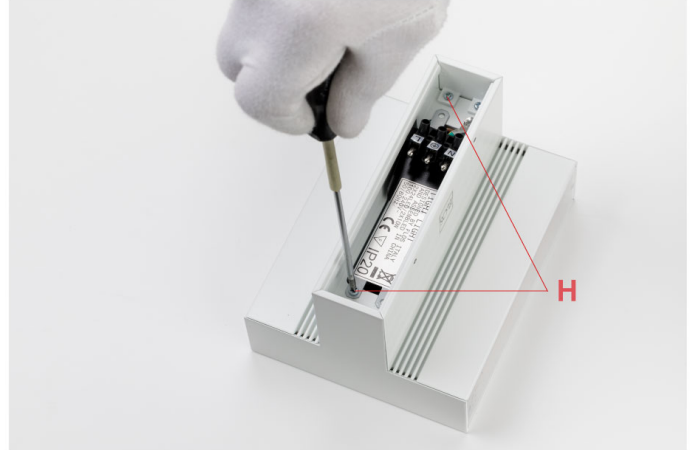
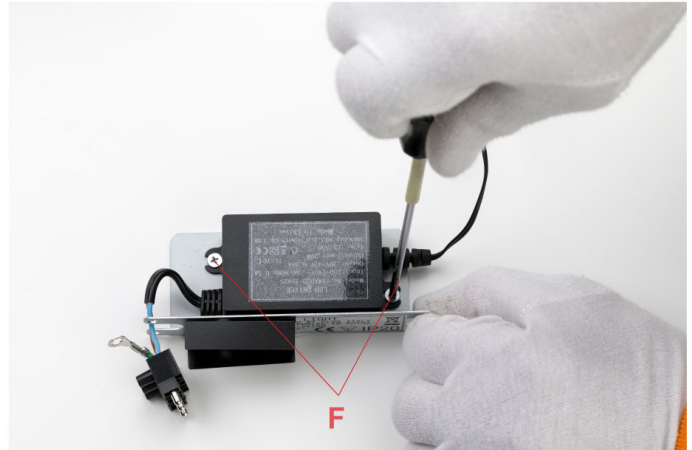

Fig.5
Fig.7
- Unfasten the two diagonal screws (H) that fix the driver bracket (I) to the lamp body. (Fig.5)
- Lift up the driver bracket (I) from the lamp body.
- Disconnect the connectors (J) and unfasten the driver screws (K). (Fig.7)